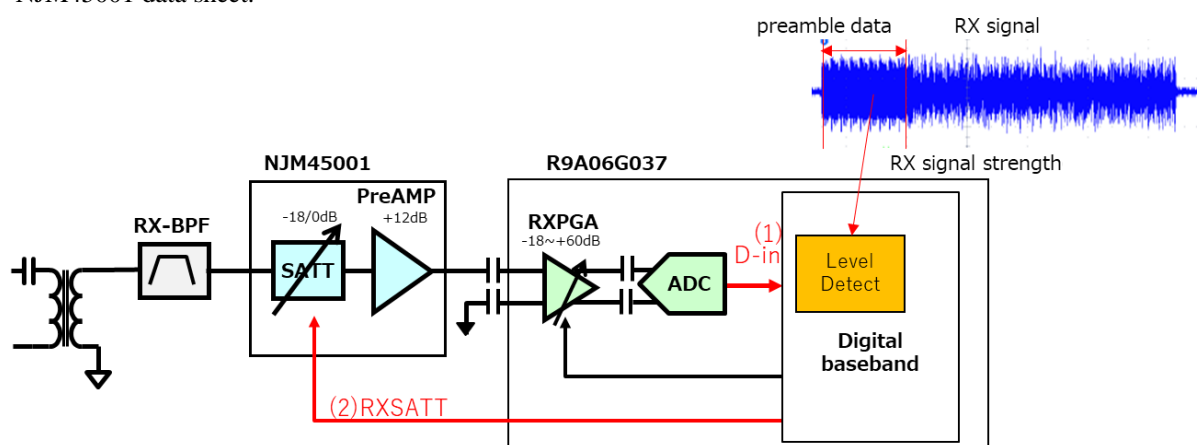
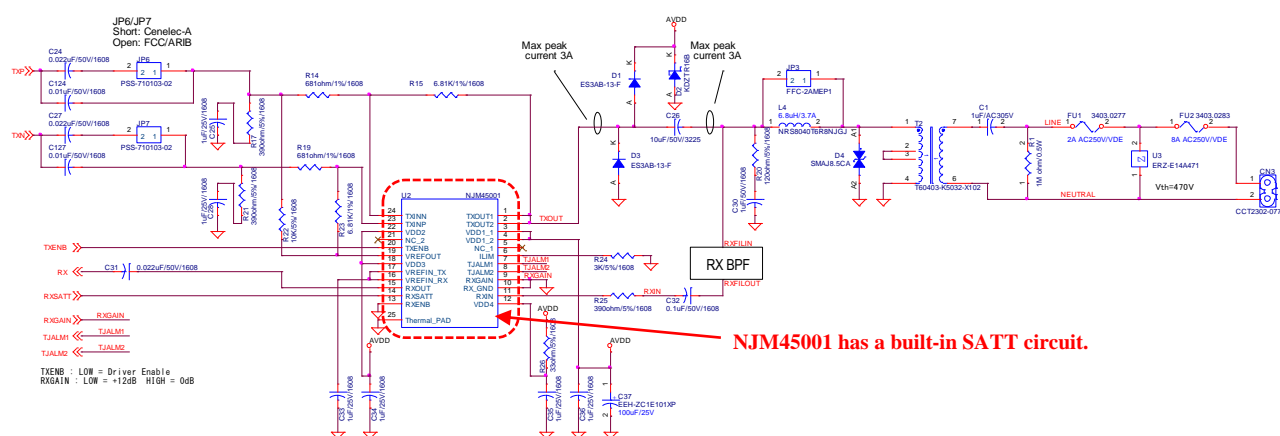

Figure 3-9 Step Attenuator (SATT) control method
Figure 3-10 Example of Step Attenuator (SATT) circuit
- Figure 3-9 shows how to control SATT.
- (1) Using the received preamble data, the level detection function of the digital baseband section determines whether the signal strength of the ADC output exceeds the signal level saturated in the receiving circuit.
- (2) When the signal level saturated in the receiving circuit is exceeded, the received signal is attenuated by switching the RXSATT signal from 0 to 1 and switching the SATT gain from 0dB to -18dB.
- Figure 3-10 shows an example of the SATT circuit used for the PLC board.